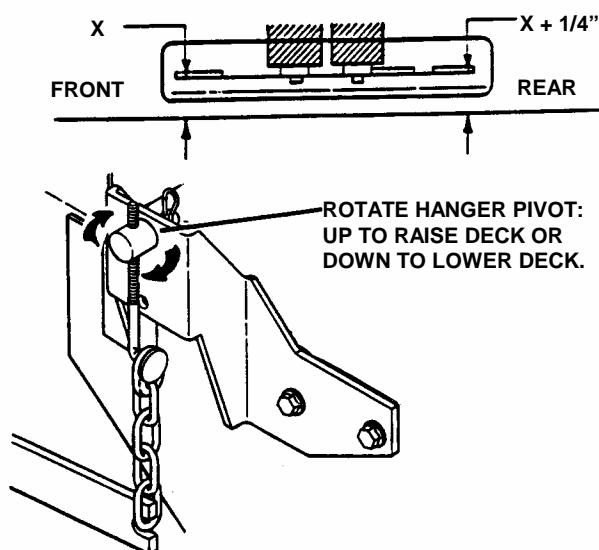

FIGURE 4.10
- Turn each hanger pivot the same number of rotations on the eye-bolt to raise or lower the rear of the deck. See Figure 4.10.